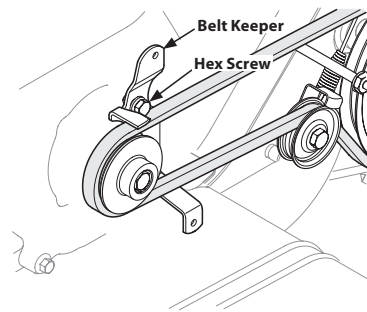

Figure 21
4. Using a 1/2" wrench, remove the hex screw securing the belt keeper to the engine. See Figure 21.